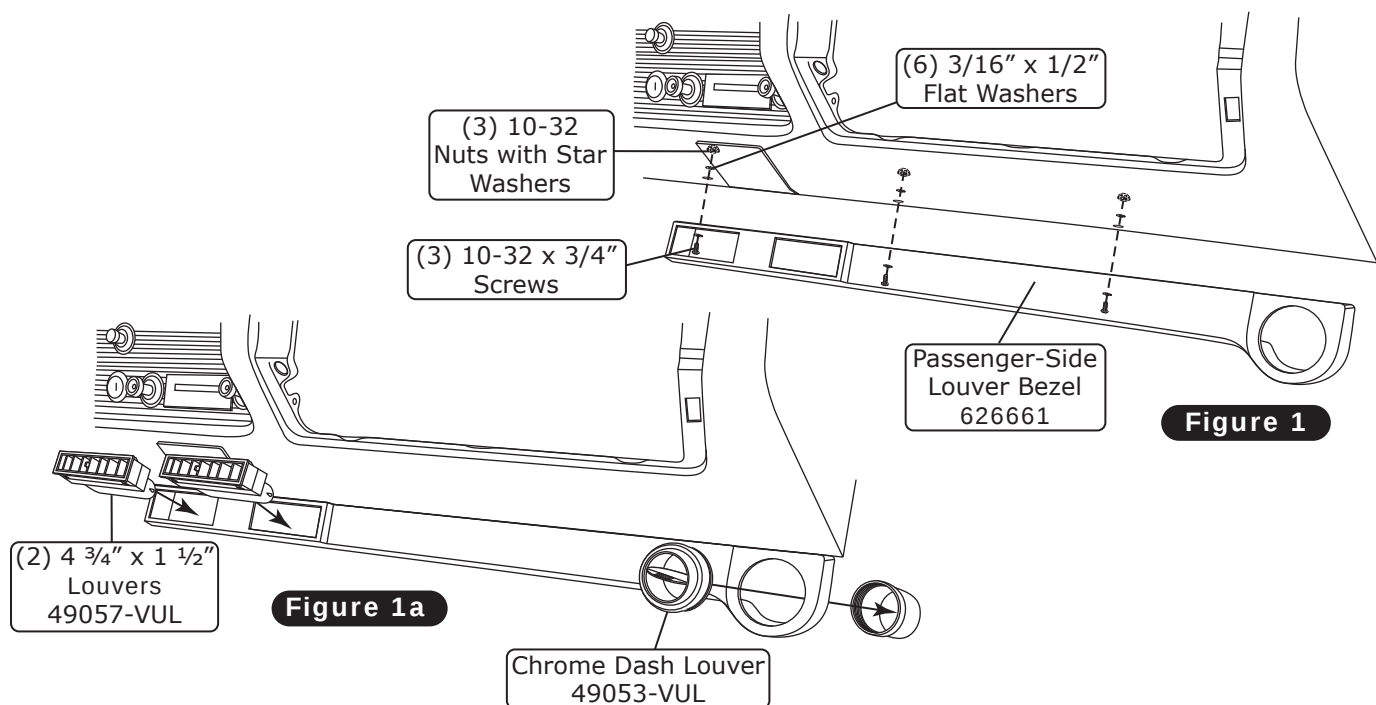

Figure 1
2. Secure the louver bezel under the dash using (3) 10-32 x 3/4" screws, (6) 3/16" x 1/2" flat washers and (3) 10-32 nuts with star washers as shown in Figure 1, below.